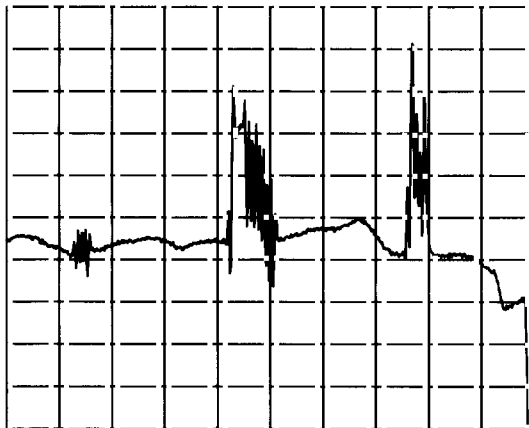

Figure 5-58. Oscilloscope Display with Squegging Present
32. Using the DUT's front panel rotary knob (RPG), vary the ALC level from -20 dBm to $+20$ dBm. Look for squegging as shown in Figure 5-58. As the power level is increased, you will need to decrease the vertical sensitivity (CHAN A) and adjust the vertical positions on the oscilloscope. If any squegging occurs, examine the ENTRY DISPLAY to determine the requested ALC level. If the ALC level is at or below the maximum specified leveled power, adjust A24R5 (X2C) counter-clockwise to eliminate the squegging. If the ALC level is above maximum leveled power, what you are seeing is probably the RF output going unleveled and cannot be adjusted out.
Squegging on the oscilloscope display may appear as shown in Figure 5-58 (power spikes and oscillations) or it may appear as power spikes without the oscillations. In either case the appropriate adjustment should be made to eliminate the squegging.